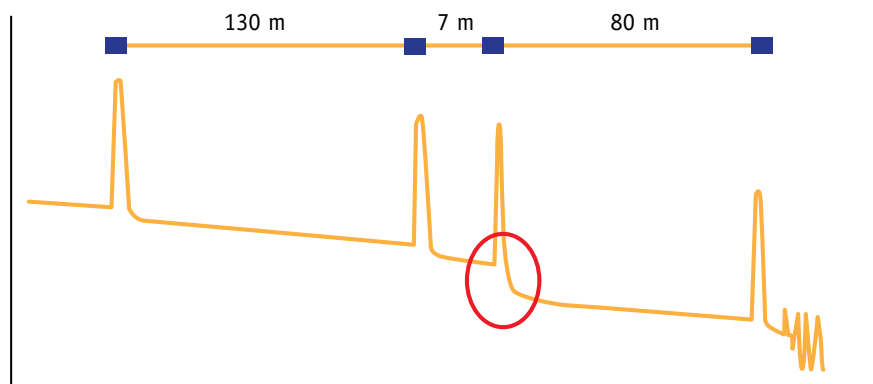

Figure 4 – Sample OTDR trace with high loss connector at 137m
- **OTDR trace.** The OTDR plots the reflectance and loss over time in a graphical “trace” of the fiber. Experienced technicians can “read a trace” and explain it. For example, in **Figure 4**, an experienced eye can spot that one side of a cross connect is exhibiting excessive loss.